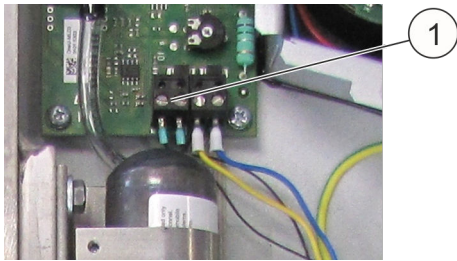

Fig. 50: Connection loss monitoring
10. ➤ Loosen the electrical connection (Fig. 50/1) of the loss monitoring.